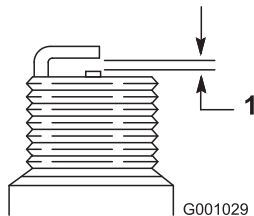

Figure 48
4. Set the gap between the electrodes on a new spark plug at 0.76 mm (0.030 inch) as shown in Figure 48.